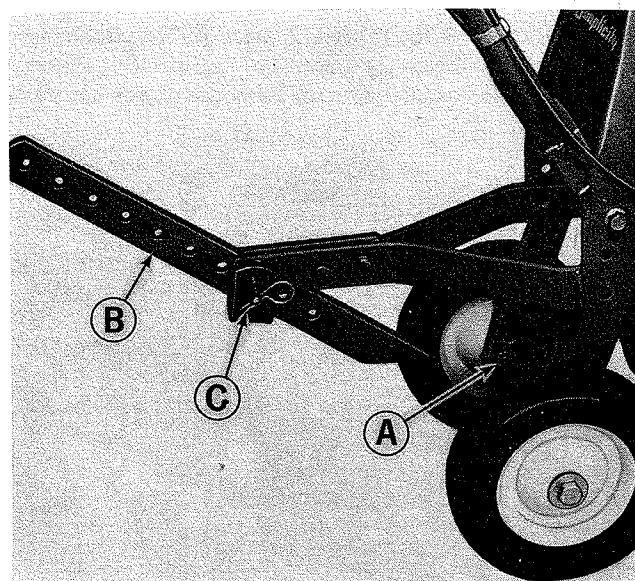

Figure 5. Depth bar seen from right side.
WHEEL POSITION: Check to be sure that the wheels are mounted in the lower holes of the frame legs as shown in Figure 5, Item A.
See figure 5. The setting of the depth bar (B) determines the depth of tilling. To till 4" to 6" deep, install the depth bar mounting pin (C) in the second or third hole from the top. Simply pull out the hair pin cotter to change the pin location. Be sure to install the bar with the digging tip as shown. The deeper the depth bar is set into the soil, the deeper the tines will dig.